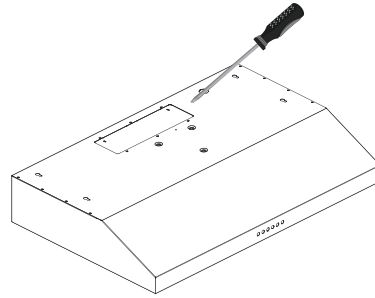

Figure 2
- Depending on the exterior venting option chosen (see page 10), pop out the steel panel on either the top or rear of the range hood (see Figure 2).